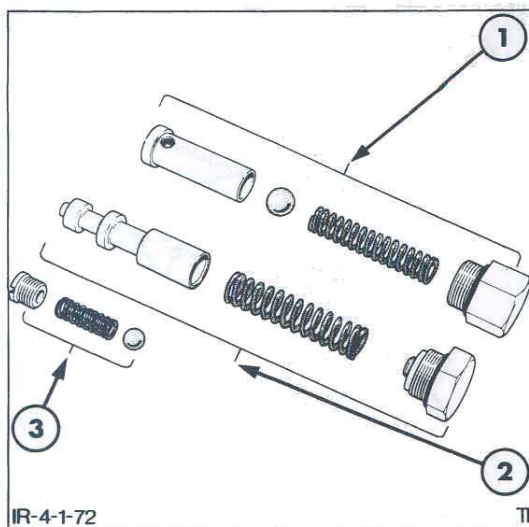

Figure 81
8. Inspect the regulating valve spool, Figure 81 for excess wear, grooves or scratches that may cause the spool to malfunction. If scratch marks cannot be removed by polishing, install new parts during assembly. Check the spring and if suspect, measure spring dimensions, see "Specifications" – Chapter 3.
7. Inspect the by-pass valve seat and ball for scratches and pitting, Figure 81. If scratch marks cannot be removed by polishing, install new parts during